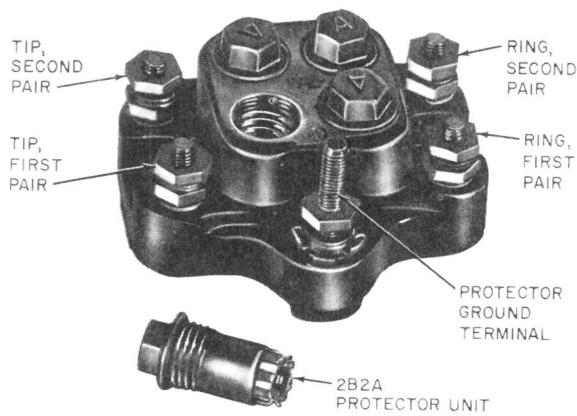

Fig. 5—128A1A-2 Protector
**3.05** The 128A1A-2 protector (Fig. 5) provides protection for two pairs of wires. It consists of a nonconductive base containing five binding posts and four 2B2A protector units. The bottom left and right binding posts are tip and ring for the first line, and the top left and right binding posts are tip and ring for the second line. The two bottom 2B2A protector units protect the first line, and the two top 2B2A protector units protect the second line. The center binding post is the ground line. The 128A1A-2 protector should be grounded with a ground wire no smaller than a No. 12 ground wire (see Table B).